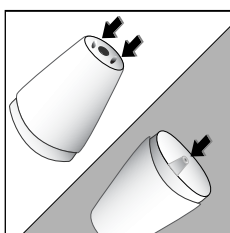

fig. 16
- Unscrew the steam nozzle by turning clockwise (carefully to avoid being burnt). Check that the 3 holes shown in fig. 16 are not blocked. If necessary, clean them with the help of a pin